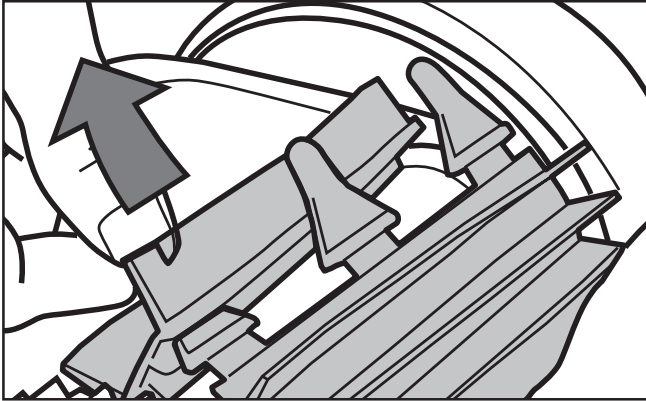

Figure 27. Pull Tabs Through Each Slot
4. Thread each tab into the slot provided and gently feed it through until the heel comes out at the other side of the slot. Refer to Figure 27.